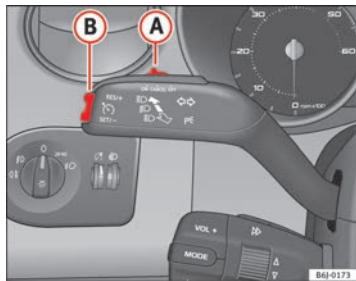

Fig. 105 Indicator and main beam headlight lever: switch and rocker switch for the cruise control
- Press the lower part **SET** of the rocker switch ⇒ fig. 105 **B** once briefly when you have reached the speed you wish to set.